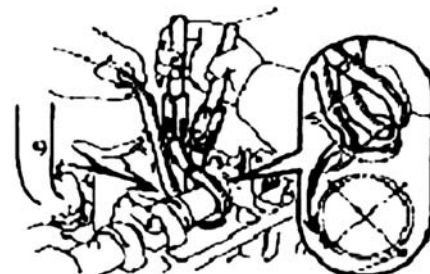

Figure 18
- Lean the end with mark "9" into the position in (Figure 18).